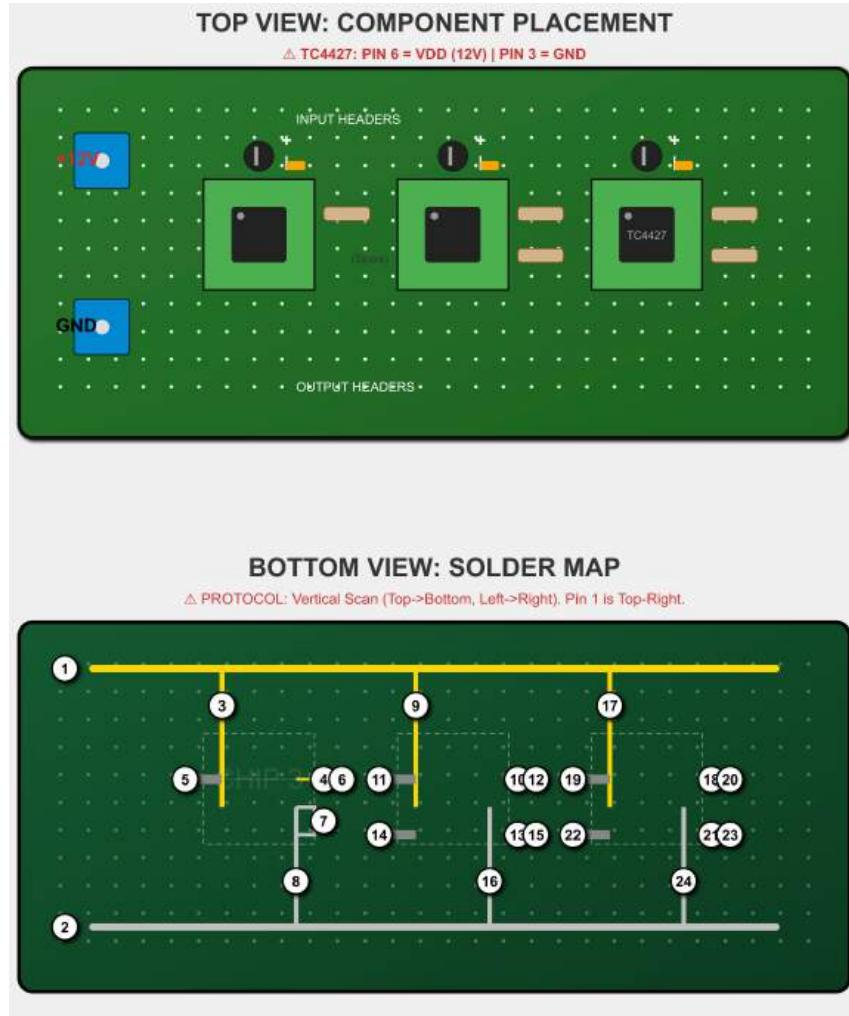

Figure 9-2c: N-FET Gate Driver Perfboard Layout (3x7 cm)
Standard: IPC Class 2 Reliability **Objective:** Build a high-speed, high-current driver board capable of surviving vibration and thermal stress. **Reference Artifact:** **Figure 9-2c (Double-View Solder Map)**
- **Orientation Rule:** The **Dot** on the TC4427 chip marks **Pin 1**. All pin numbers in this guide assume the chip is oriented exactly as shown in **Figure 9-2c (Top View)**.